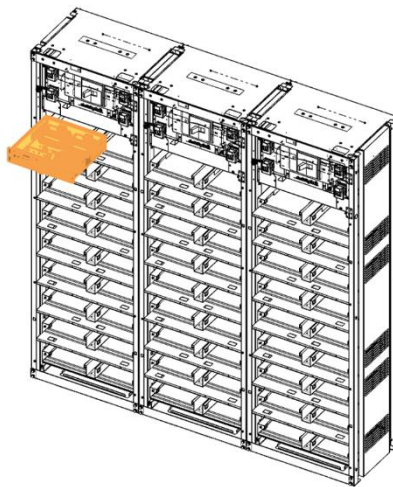

Figure 3-22: Inserting SMPS Assembly
4. Insert SMPS Assembly into the rack frames designated for SMPS Assembly as shown in Figure 3-22: Inserting SMPS Assembly